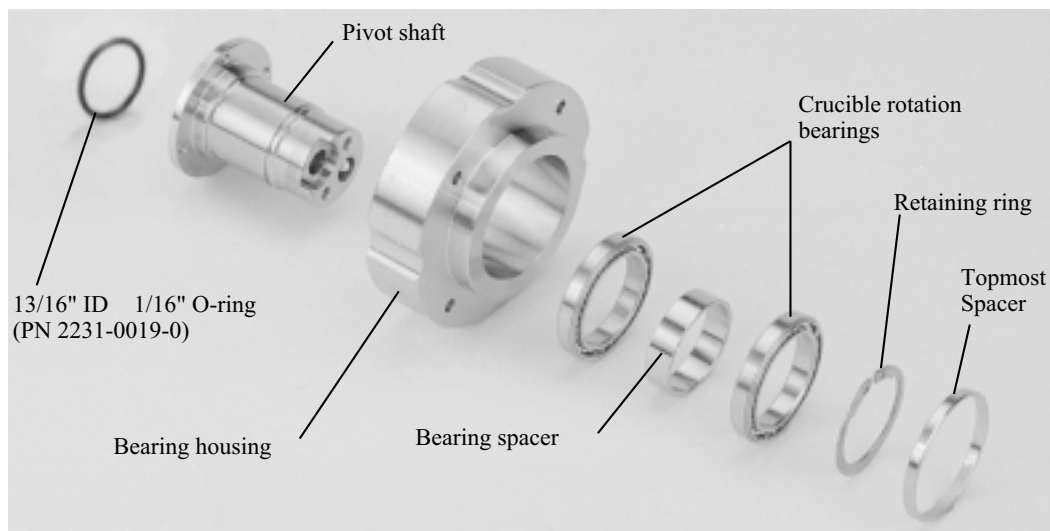

Figure 6-28. Layout of the parts of the bearing housing assembly, in order of reassembly
Step 3: Remove the pivot shaft, upper and lower bearings, and bearing spacer from the bearing housing. Figure 6-28 shows these parts laid out in order of reassembly.
Figure 6-28 shows the correct reassembly order and orientation for the parts of this assembly. Note that the bearing housing has a step in the bottom end of its bore, so that the bearings and the spacer can only be inserted from one direction.